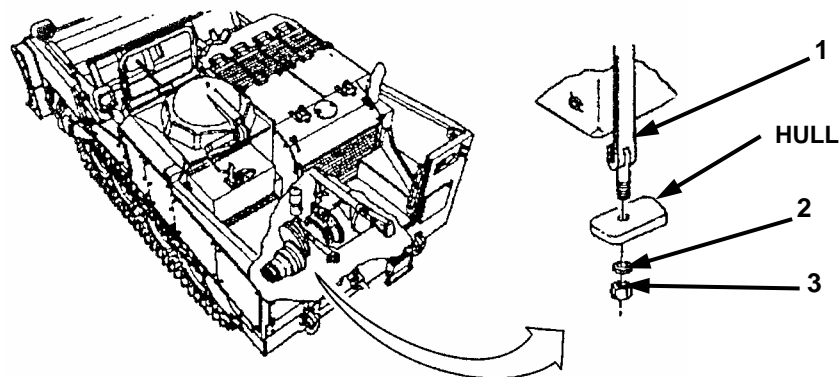

Figure 2-30. Rear Fuel Tank Strap.
- h. Lubricate bearings (3) with grease at lubrication fittings (2 and 5).
- i. Connect rear fuel tank strap (Figure 2-30, 1) to hull with washer (2) and locknut (3) retained from Section IV, step 6d.